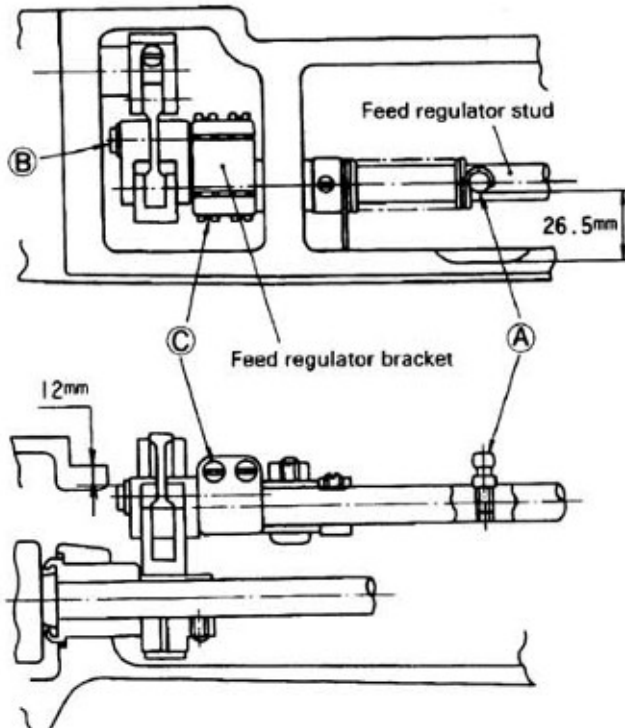
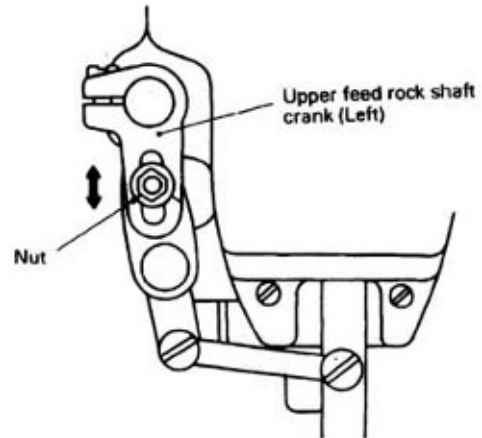

Fig.25
Fig.26
3) Installing the feed regulator bracke (Fig.25):
(1) Set the clearance between special screw "A" located on the regulator stud and the side wall of the machine arm to 27.5mm as Fig.25.
(2) With the feed regulator stud held as explained in step (1) above, adjust the feed regulator bracket. This adjustment should insure a clearance of 12mm between the periphery of pin "B" located on the feed regulator bracket and the top cover mounting face located on the arm. Tighten screw "C".
4) Feed pitch adjustment of walking foot (Fig.26):